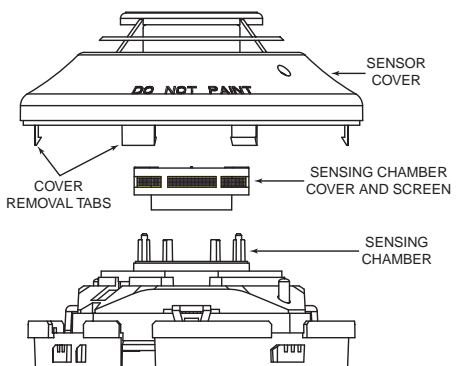

Figure 3.
1. Hold the test magnet in the magnet test area as shown in Figure 3.